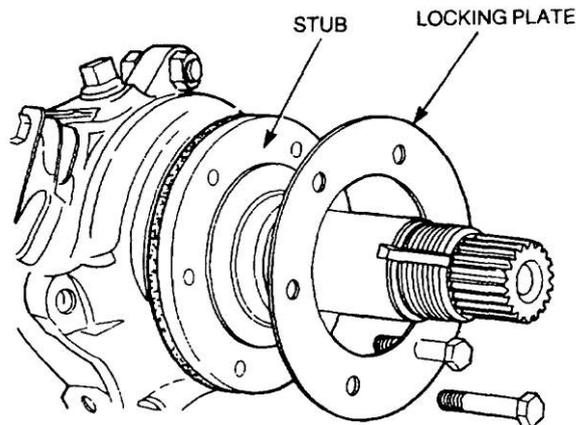

Figure 275 Removal of the Stub Axle
- c. Remove the six bolts and locking plate retaining the hub stub axle to the swivel housing (Figure 275).